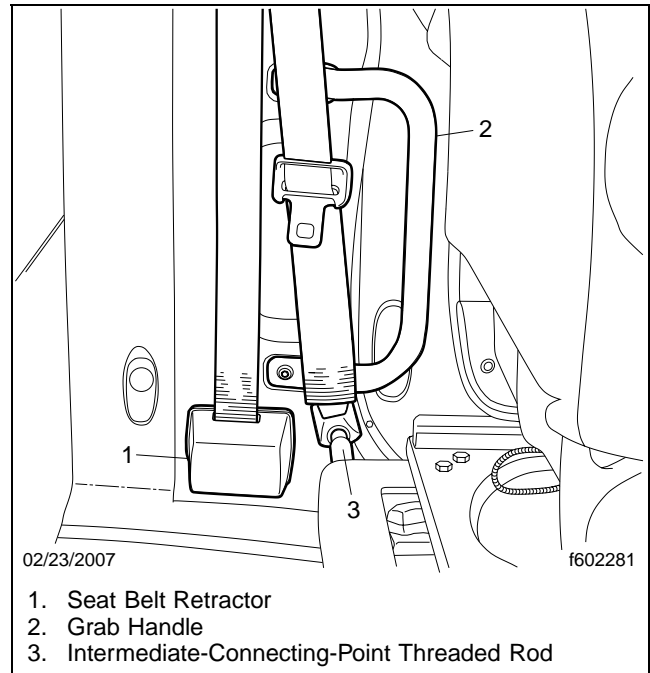

Fig. 16, Grab Handle and Seat Belt Installation
- 7.1 Remove the cover from the seat belt retractor. See **Fig. 16**.
8. Attach the grab handle, using two screws, to the B-pillar cover and the cab side wall. See **Fig. 16**.